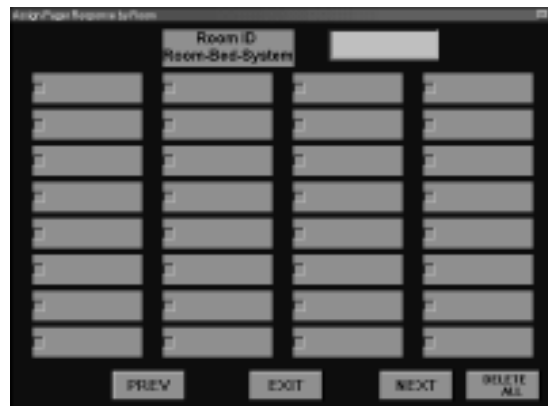

Figure 35: Assign Pager Response by Room
9. Refer to *Figure 35* for the ASSIGN PAGER RESPONSE BY ROOM menu that will appear.
14. Select the call types that the pager will respond to for this room (this assignment pertains to this pager for this room ONLY). If the defaults button is selected, the default settings will equal the default call mask created when the pager system was set up. Refer to *Figure 35*.